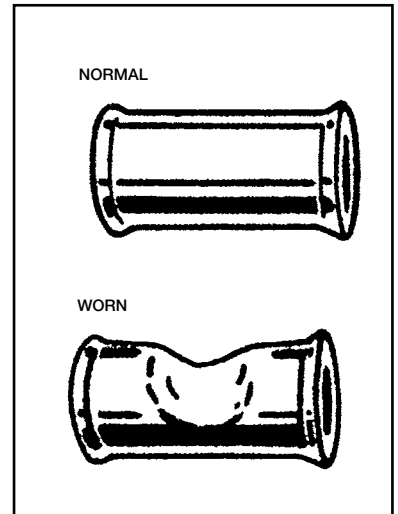

Figure 73
- B. Inspect rivets for wear or fractures (Fig. 73).